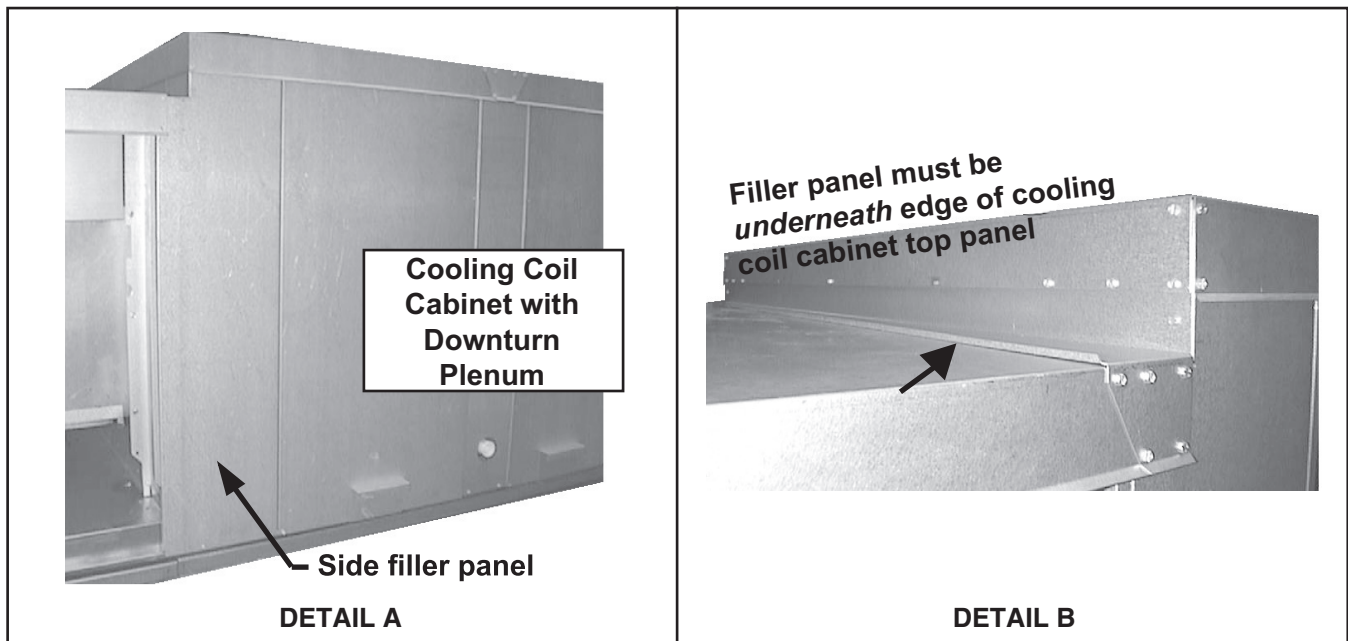

Figure 7. Filler Panel Installation
b. Install side filler panels (see Figure 7, DETAIL A):
- c. Install top filler panel (see Figure 7, DETAIL B):
- (1) Remove backing from gasket strip and adhere it along edge of bottom of top filler panel.
- (2) Slide top filler panel underneath edge of cooling coil cabinet top—edge of top panel may have to be pulled out slightly to slide panel underneath—panel must be between cooling coil cabinet top and end panel to prevent water from leaking into cabinet.
- (3) Secure top filler panel using #10 × 1/2 sheet metal screws.
- (4) Re-install any remaining screws removed in step 7a.
- (5) Check for gaps and apply caulking as needed so that any gaps between top filler panel and furnace section top panel are sealed.